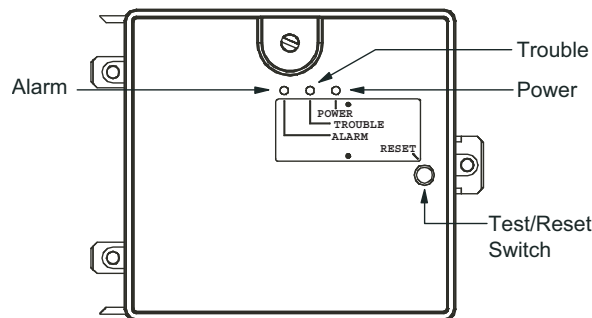

Fig. 55 — Controller Assembly
- The contacts on the controller's supervisory relay switch positions. (See Fig. 55.)